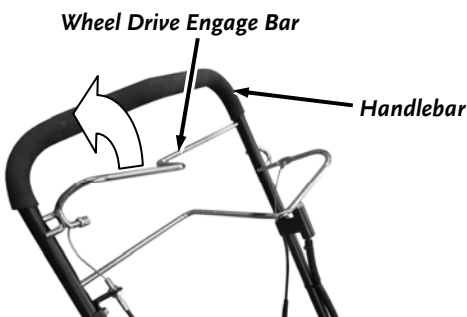

Figure 16
1. Bring the Wheel Drive Engage Bar toward you and the Handlebar (**Figure 16**). The closer to the Handlebar you move the Bar the faster the machine will travel. The machine will continue to move forward until you release the Bar.